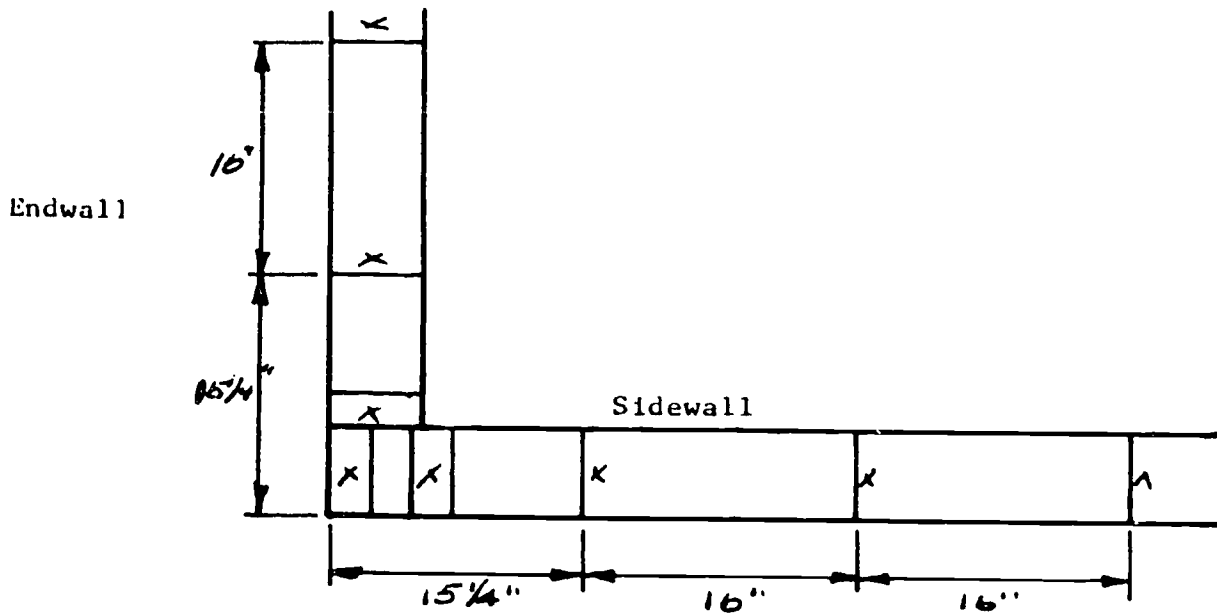

Figure 39. Plate Layout - Combined View
Figure 39 illustrates a complete plate layout. This layout includes common studs, a built-up corner, cripple studs, trimmers and a partition post. When laying out a wall it is important that all studs are properly laid out, this insures the studs will be in vertical alignment and on the proper centers.
3. The rest of the studs will be laid out every 16 inches from the first study. Figure 39 illustrates a combined view of stud layout.